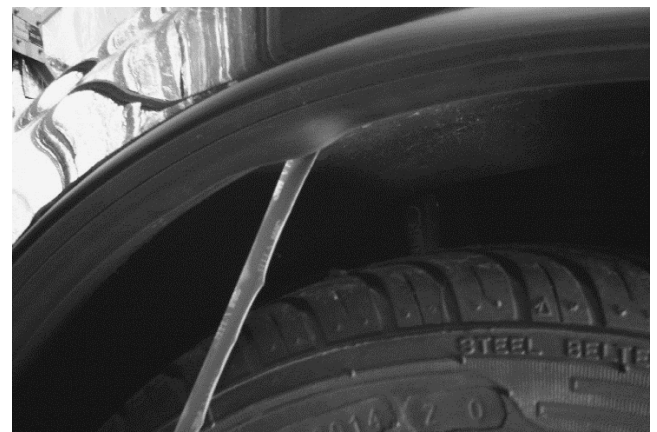

FIG 2
3.6 Once you are happy with the positioning of the entire extension, the lower bonding face release liner can now be peeled back allowing the extension lower edge to also adhere to the vehicle wheel arch (FIG 2).